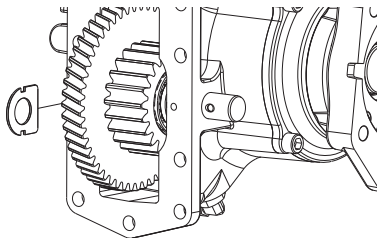

Figure 11 – Shim Pre-load
18. Tap the input shaft in the reverse direction so that it is flush with the bearing in this assembly. Insert the thickest shim (33) that can be installed by hand in the gap between the bearing and housing. Remove the shim (33) and select the next thickest shim and drive into the gap. Rotating the gear to make sure it easily rotates. The recommended bearing pre-load is .002" to .006" loose (the cone spacer sets this pre-load and the measurement is not required). *See Figure 11*